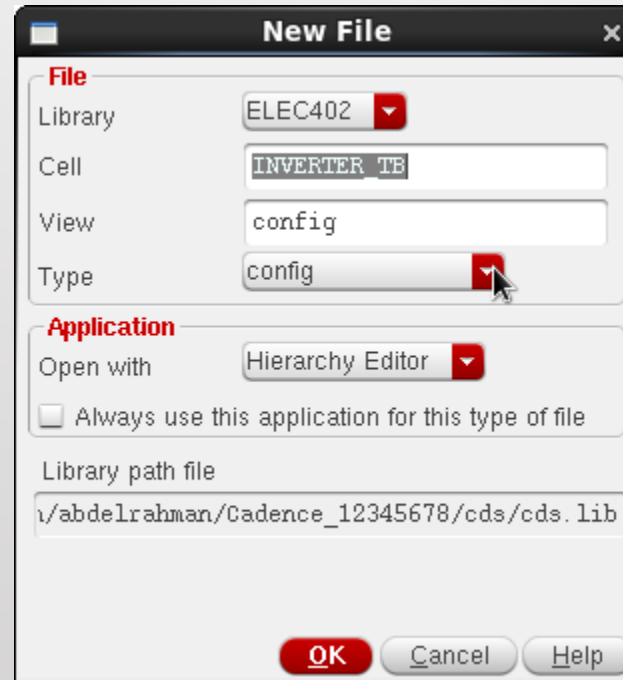
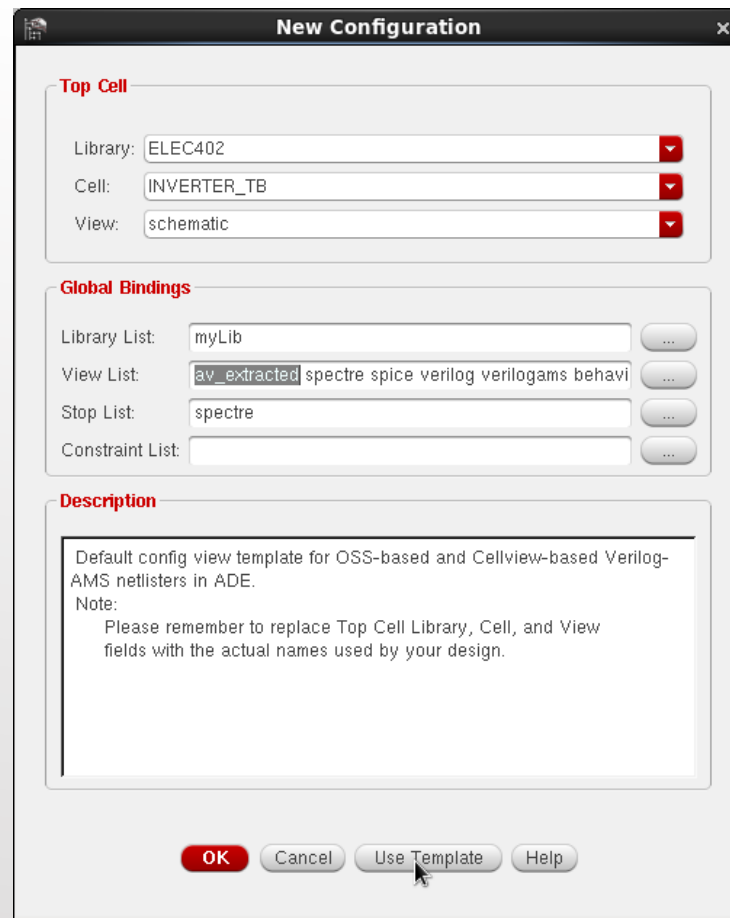

Figure 20 Create config view for the TB.
Figure 21 New Configuration.
- After extracting the layout all the simulation done in “Cadence Virtuoso – Schematic & Simulations – Inverter \(45nm\)” tutorial should be repeated to include the parasitics’ effect. To do so, you will have to let the simulator know that you want to use the extracted view coupled with the TB netlist, which is done through the “config” view. From the library manager create a new cell view for your TB with the Type field set to “config” as shown in Figure 20. The “New Configuration” window will open. Modify the fields, use the AMS template, and add the “av\_extracted” to the View List as shown in Figure 21.